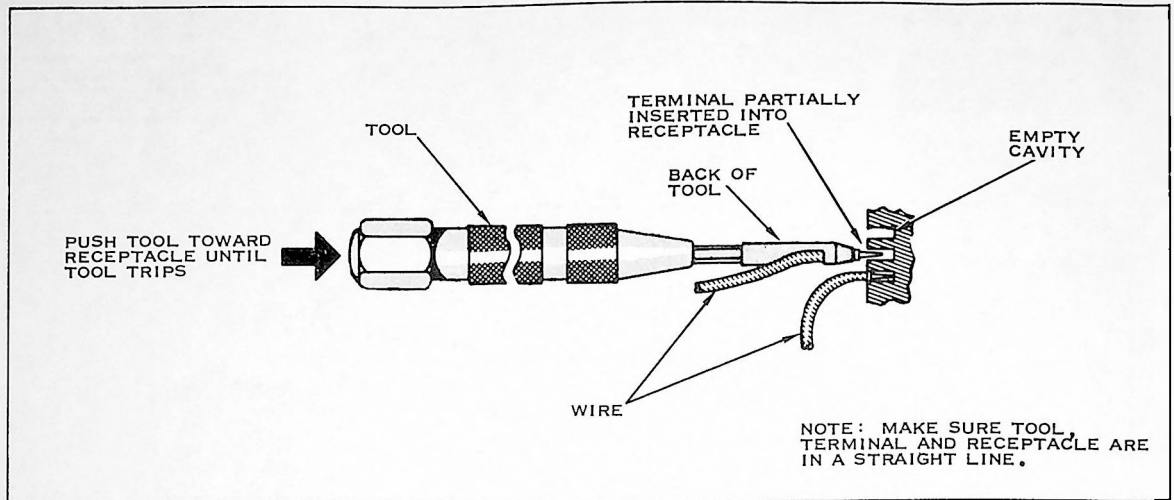

FIGURE 3
4. The Back of the Tool Tip must have clearance to move away from each inserted Taper Pin; a Taper Pin next to the Back will not provide proper clearance. Make sure you fill the Receptacle Cavities in a sequence that will allow for Tool removal. See Figure 3.
5. With the Terminal in the Tip, insert the Terminal into the Receptacle. See Figure 3. While inserting the Terminal keep the Tool, Terminal and Receptacle in a straight line. See Figure 3.